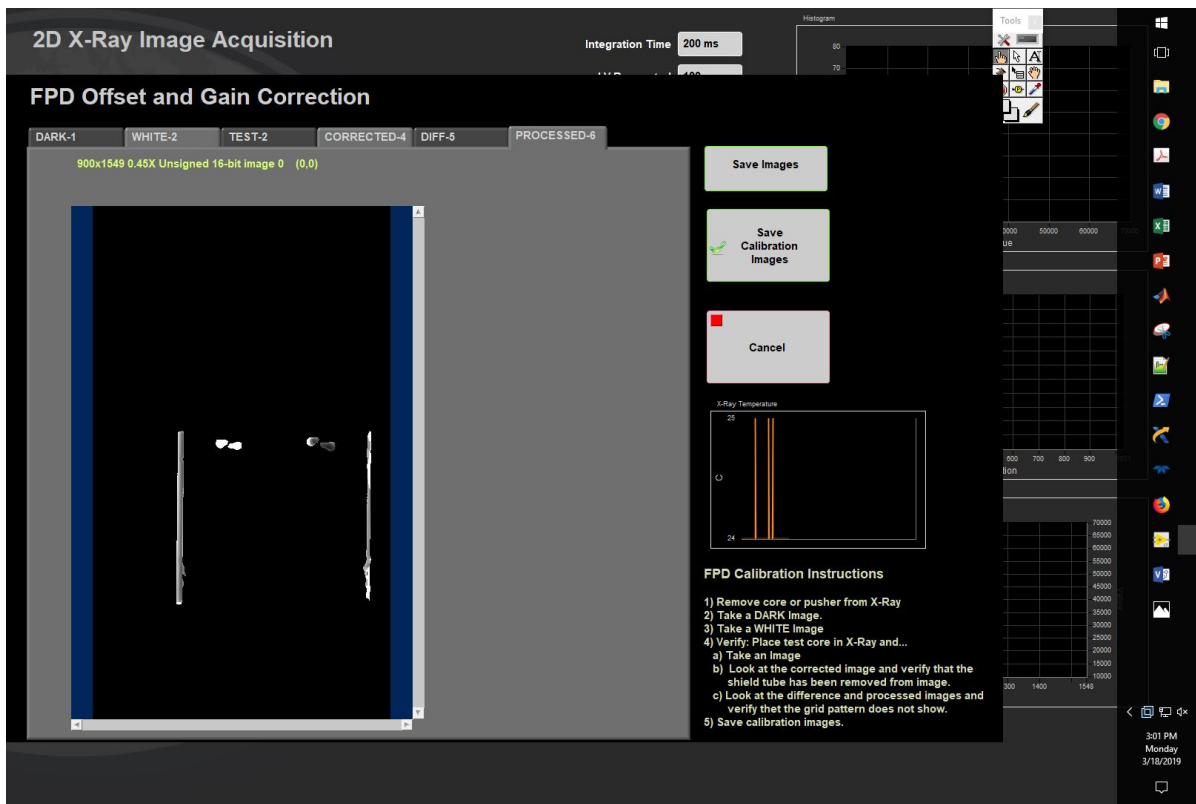

Figure 29- Processed Image Tab
6. Select the PROCESSED-6 tab to review the automatically processed image (Figure 29).